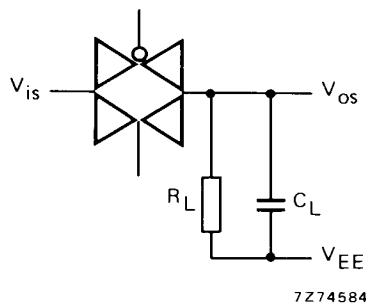

Fig. 9.
- $R_L = 10\text{ k}\Omega$ ;  $C_L = 15\text{ pF}$ ; channel ON;  $V_{is} = \frac{1}{2} V_{DD(p-p)}$  (sine-wave, symmetrical about  $\frac{1}{2} V_{DD}$ );  $f_{is} = 1\text{ kHz}$ ; see Fig. 9.
- $R_L = 1\text{ k}\Omega$ ;  $C_L = 5\text{ pF}$ ; channel OFF;  $V_{is} = \frac{1}{2} V_{DD(p-p)}$  (sine-wave, symmetrical about  $\frac{1}{2} V_{DD}$ );  $20 \log \frac{V_{os}}{V_{is}} = -50\text{ dB}$ ; see Fig. 9.
- $R_L = 1\text{ k}\Omega$ ;  $C_L = 5\text{ pF}$ ; channel ON;  $V_{is} = \frac{1}{2} V_{DD(p-p)}$  (sine-wave, symmetrical about  $\frac{1}{2} V_{DD}$ );  $20 \log \frac{V_{os}}{V_{is}} = -3\text{ dB}$ ; see Fig. 9.